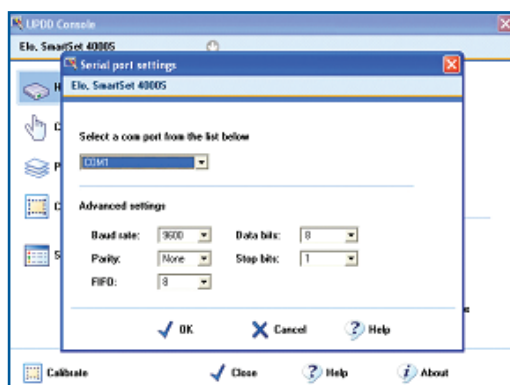

Figure 4
The correct serial com port will be displayed as in Figure 4. The general settings used are: Com 1, Baud rate 9600, Parity none (0), data bits 8, stop bits 1 and FIFO 8.